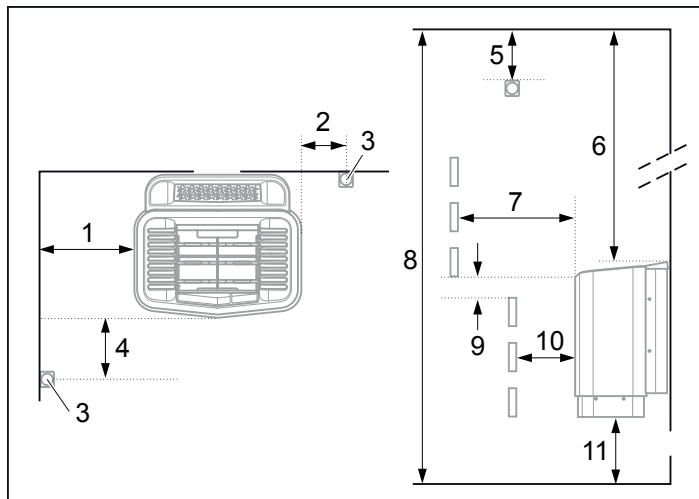
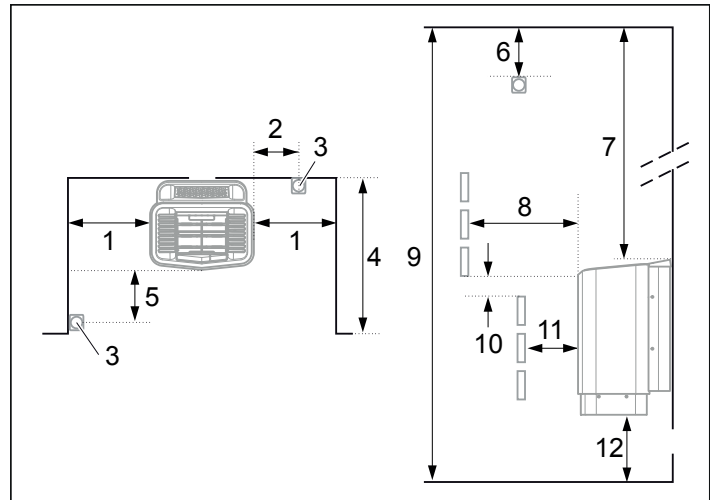

Figure 3: Positioning the heater - normal installation
Figure 5: Positioning the heater - recess installation
- Plan the sensor positioning (see Figure 3 and Figure 5).
- on the same wall as the door (or the side wall if very close to the door wall). The heater may also be placed in a recess (see Figure 5).
- Position the heater at a safe distance from the floor, side walls and interior fittings (see Figure 3).
Position the sensor according to the picture (see Figure 3).
1. Position the heater at a safe distance from the floor, side walls and interior fittings (see Figure 5).
2. Position the sensor according to the picture (see Figure 5).